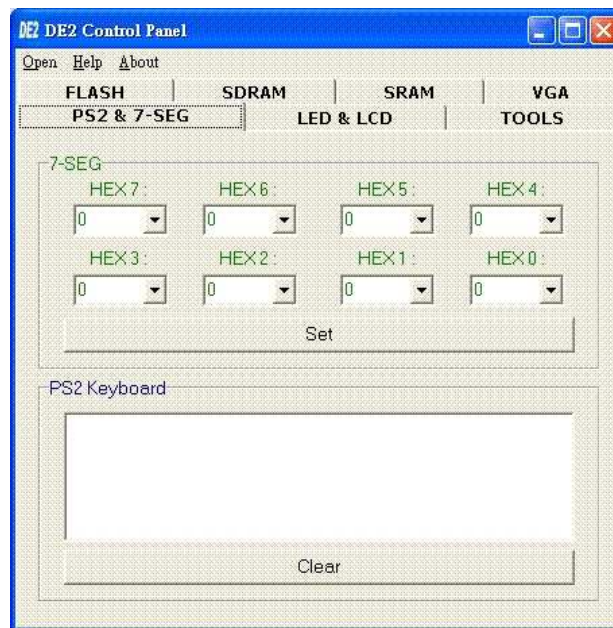

Figure 11.2. DE2 Control Panel (PS/2 and 7-SEG Page)
2. Once the DE2_Control_Panel program in C:\DE2\ is started, the user interface shown in Figure 11.2 should appear.